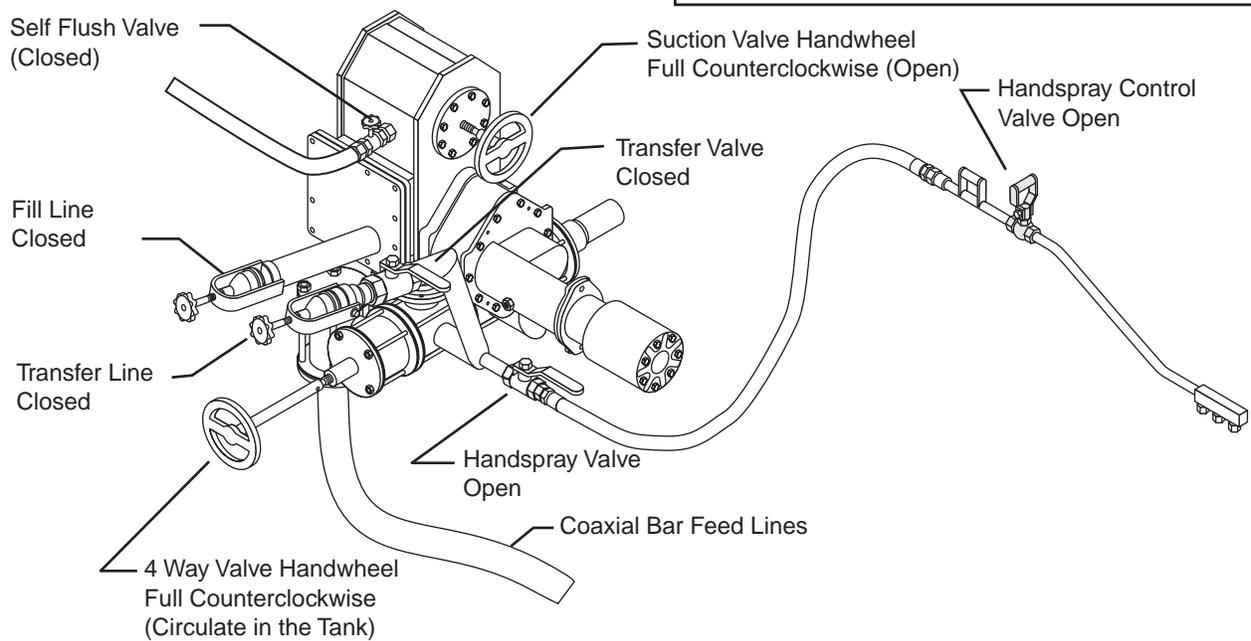

Figure 8. Valve Positions for Handspray
3. Open the hand spray valve. (See Figure 8)